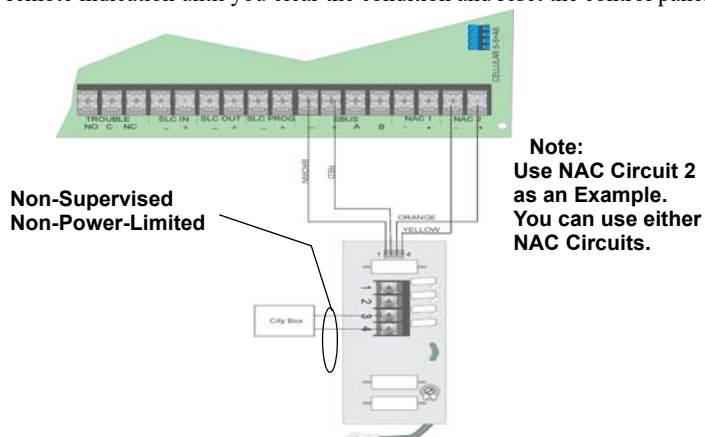

Figure 4.28 City Box Connection
2. Wire the 5220 to the control panel as shown in Figure 4.28.